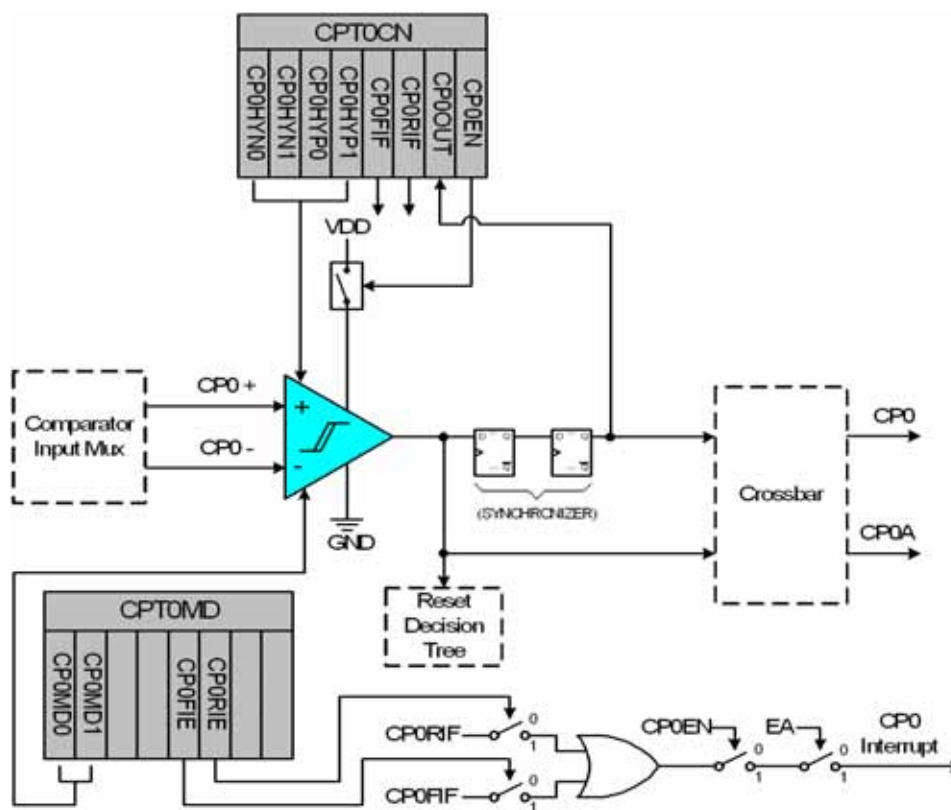
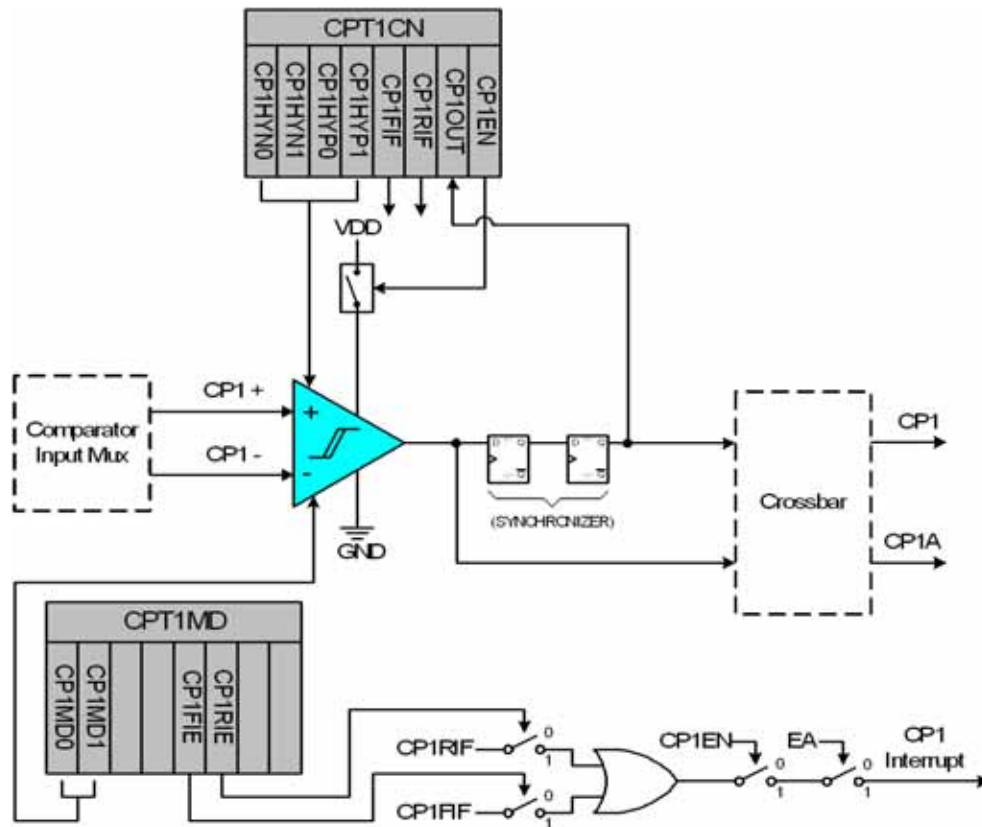

Figure 8.1. Comparator0 Functional Block Diagram
Figure 8.2. Comparator1 Functional Block Diagram
C8051F388/9/A/B devices include two on-chip programmable voltage comparators: Comparator0 is shown in Figure 8.1, Comparator1 is shown in Figure 8.2. The two comparators operate identically with the following exceptions: (1) Their input selections differ as described in Section “8.1. Comparator Multiplexers” on page 67; (2) Comparator0 can be used as a reset source.